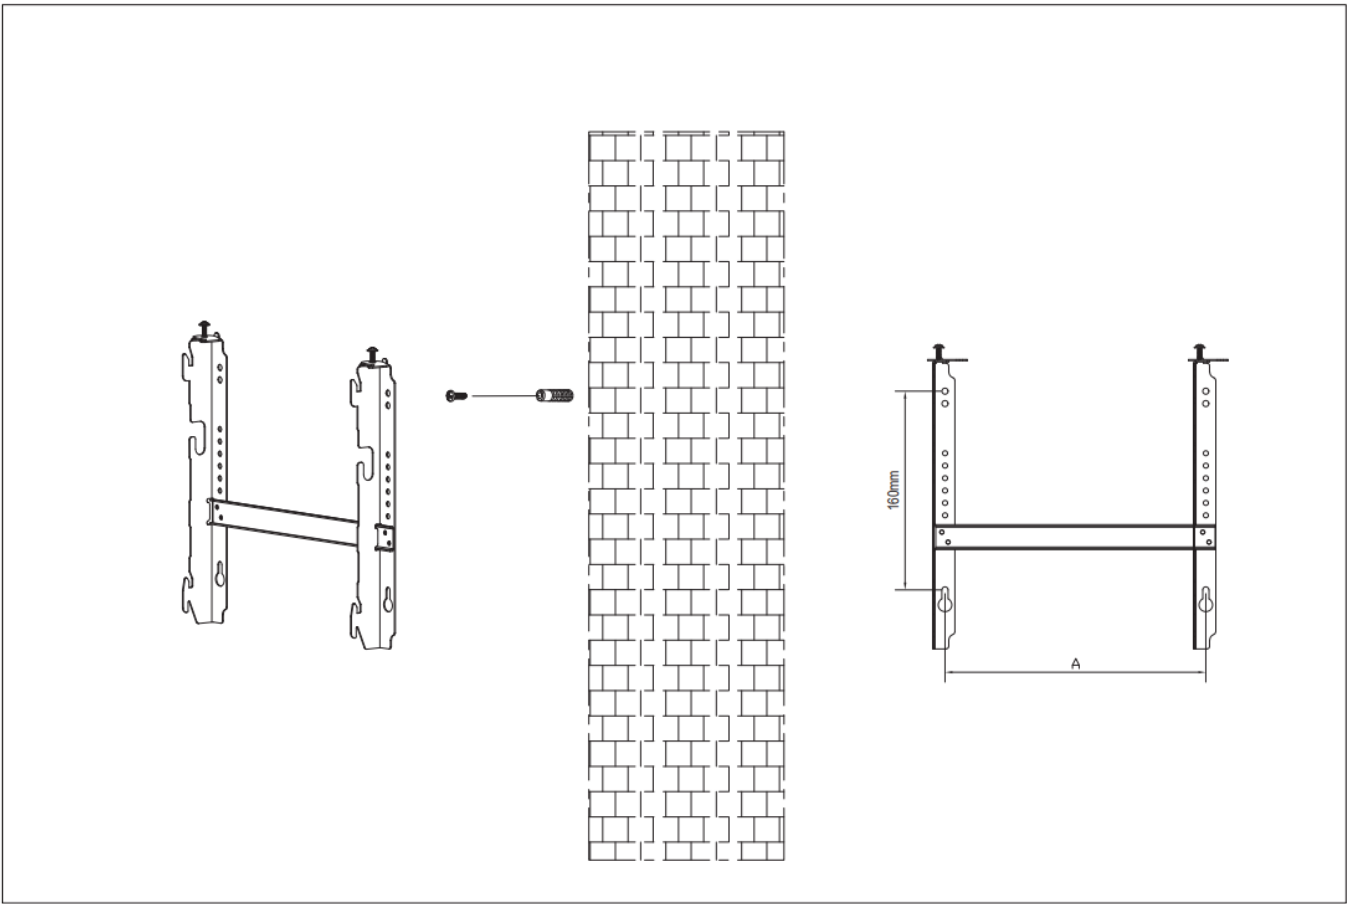

Fig 2
2. Verify that the bracket is perfectly horizontal with a spirit level and mark the location of holes on wall. Drill holes in the wall for the pegs with suitable drill bit. Insert the pegs into the holes, then screw the wall mount bracket securely onto the wall (Fig 2).